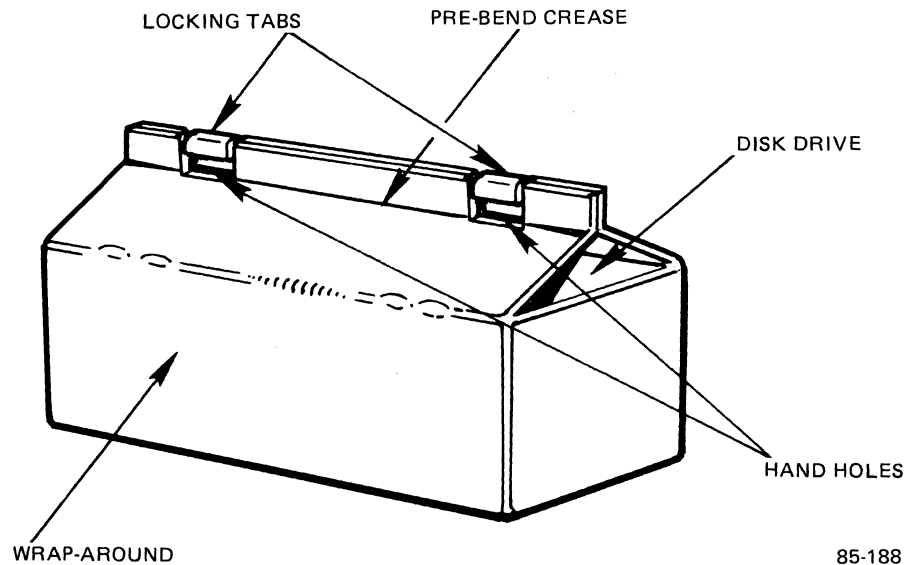

Figure 3-4. Closing the Wraparound
8. Fold up the edges of the wraparound and lock the top by inserting the locking tabs into the slots on the edge of the opposite flap (see Figure 3-4).